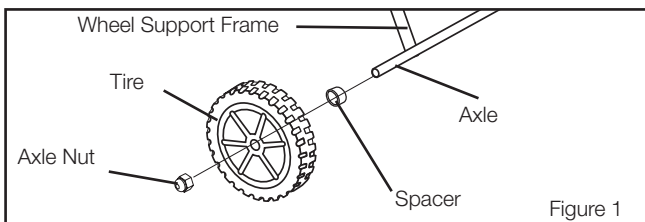
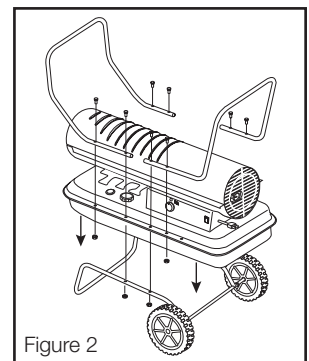

Figure 1
Figure 2
3. Slide wheel onto axle and hold in place with the axle nuts (see Figure 1).
5. Attach front handle with (2) long screws (50 mm) and (2) nuts through the second hole from the front on both sides of the tank lip and wheel support frame and tighten firmly.
6. Insert (2) short screws (30 mm) through the first hole from the front in the tank lip and tighten firmly. Make certain all (4) screws are secure.
7. Attach rear handle with (2) long screws (50 mm) and (2) nuts through the second hole from the rear of the heater on either side (see Figure 2).
10. Secure the rear handle with (2) short screws (30 mm) and (2) nuts and tighten firmly.